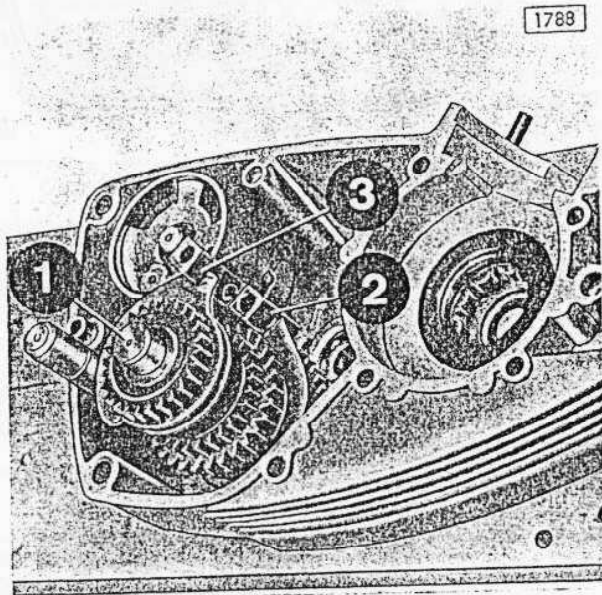

Fig. 25: Engaging the selector forks
- e) Put the previously distanced mainshaft (fig. 25/1) through the roller bearing.
- g) Engage the selector forks for 1st and 2nd (fig. 25/2) as well as 3rd and 4th gear (fig. 25/3).